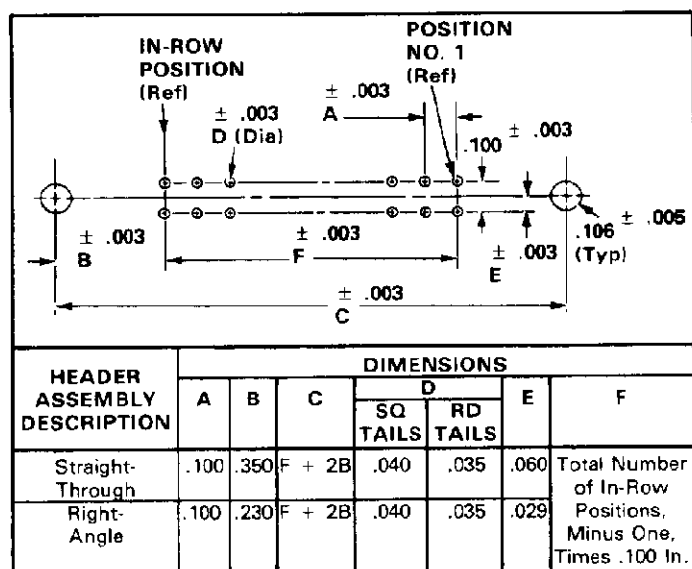

Fig. 2
The header assemblies are designed to be mounted to a pc board using the dimensions shown in Figure 2. They can be used for solder type and wire type applications.
1. Make a layout on the pc board using the appropriate dimensions from the chart in Figure 2.